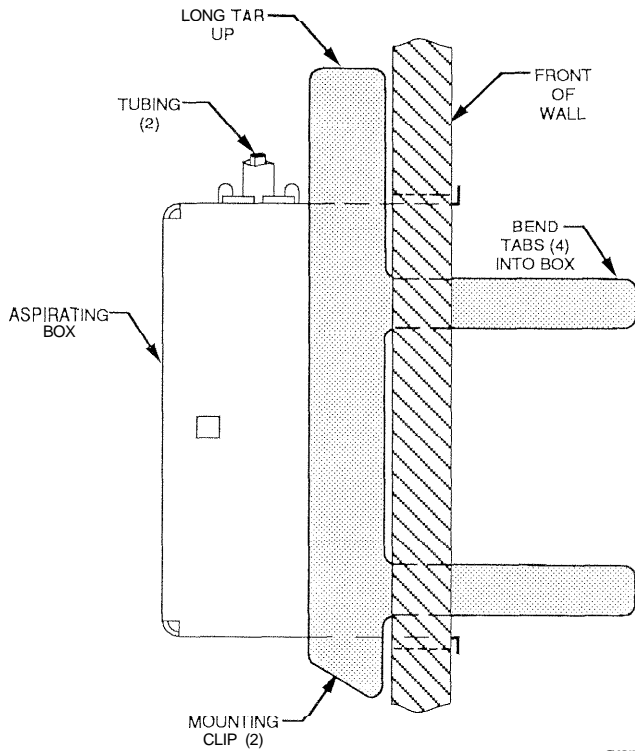

Fig. 8. Mounting 14002424-003 Wall Box with Clips
5. Install two clips (Fig. 8), long tab up, on sides of Box.